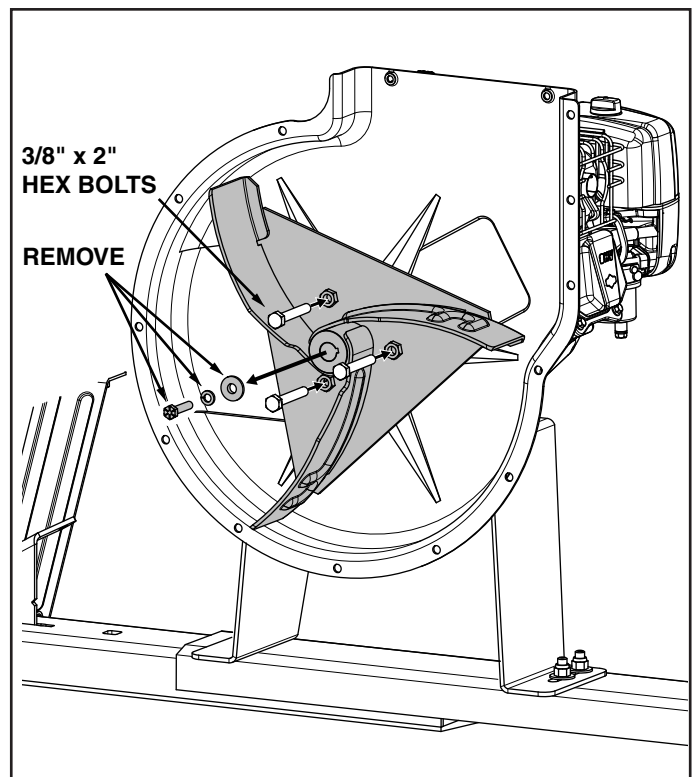

FIGURE 22
2. Remove the bolt from the impeller hub. See figure 22.
3. Screw three 3/8" x 2" full thread bolts into the three nuts welded to the impeller until they contact the housing behind the impeller. See figure 22.